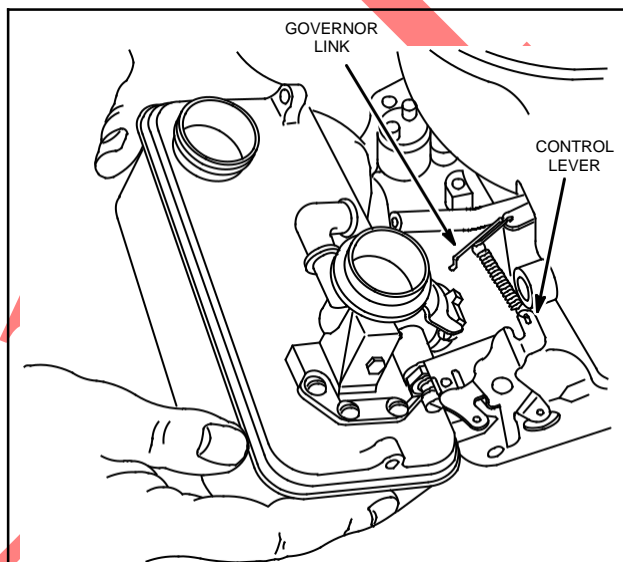

Fig. 221 - REMOVING CARBURETOR AND TANK ASSEMBLY
3. This will leave governor link and governor spring connected to governor blade and control lever, Fig. 221.